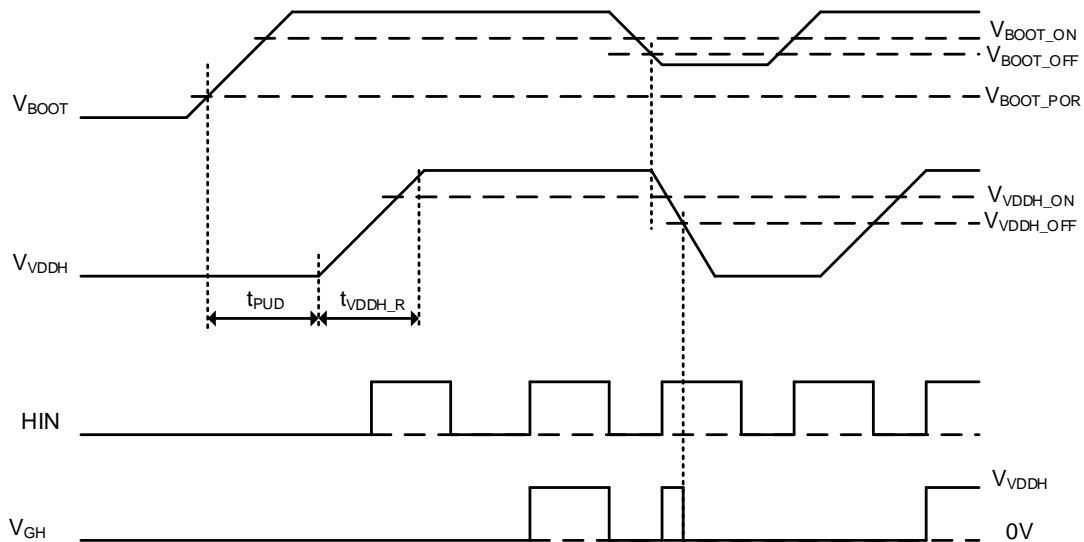

Figure 7.3 V_{BOOT} UVLO Diagram
The NSG65N15K has internal under voltage lock out (UVLO) protections on high side power supply blocks. The bootstrap diode is integrated to provide the current supply for high side driver. It is possible that an external bootstrap diode was in parallel with the integrated diode. The high side output (GH) is held low by an active clamp circuit when the supply voltage of VDD or BOOT is lower than V_{VDD_ON}/V_{BOOT_ON} at power-up status or lower than V_{VDD_OFF}/V_{BOOT_OFF} after power-up, regardless of the status of the input pins. Figure 7.3 shows the startup timing sequence of BOOT.